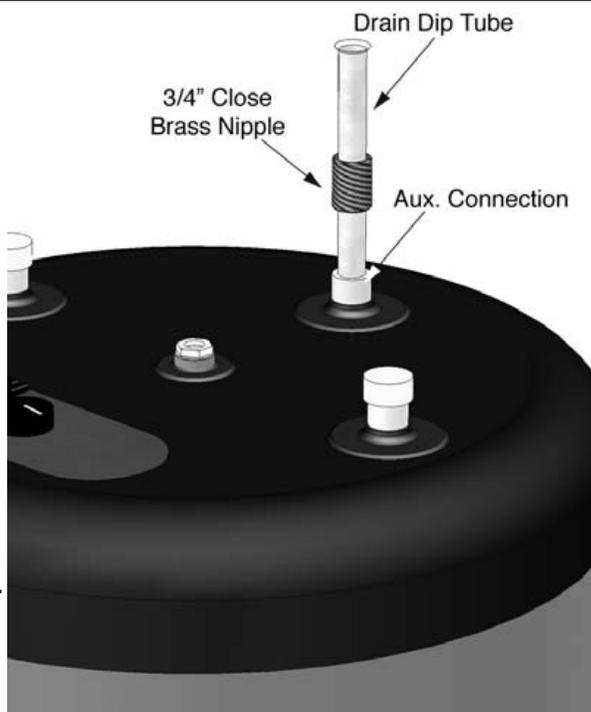

Fig. 3A: Drain Tube Assembly-Commonwealth of Massachusetts
- Thread a 3/4" close nipple onto the Auxiliary connection and insert an open-end dip tube into the Auxiliary connection on top of water heater. As shown in Fig. 3A page 9.
- It is recommended that the recirculation dip tube be installed in auxiliary connection using a close nipple assembly as shown Fig. 3A, page 9. See Chart 1 page 6 for diameter and length of dip tube.